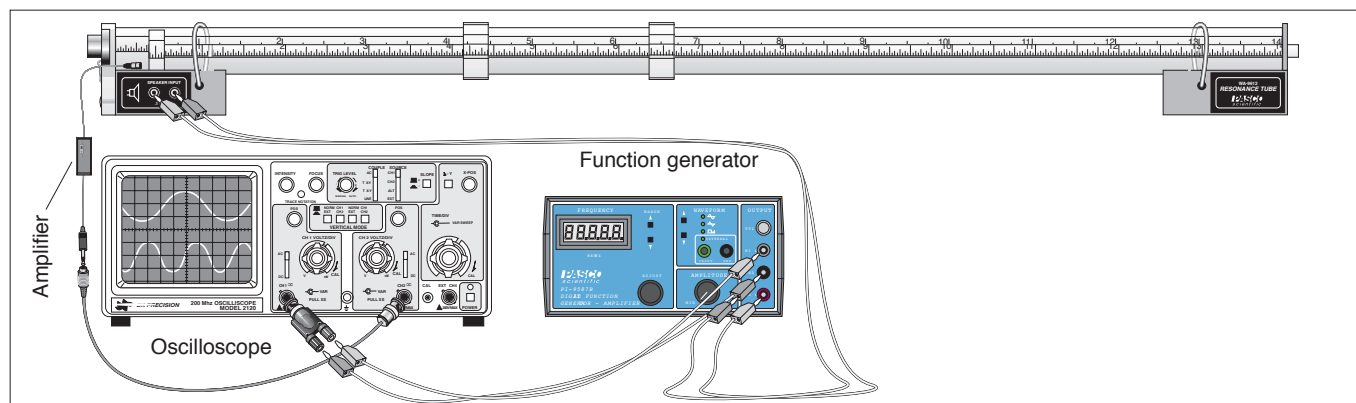

Figure 1.1 Equipment Setup
- ① Set up the Resonance Tube, oscilloscope, and function generator as shown in Figure 1.1. Turn on the oscilloscope. Set the oscilloscope sweep speed to approximately 5 ms/div and the gain on channel one to approximately 5 mV/div. Turn on the amplifier and the function generator. Set the output frequency of the function generator to approximately 100 Hz. Adjust the amplitude of the function generator until you can distinctly hear the sound from the speaker. If you use the oscilloscope, trigger on the speaker output.
- ② Increase the frequency slowly and listen carefully. In general, the sound will become louder as you increase the frequency because the function generator and speaker are more efficient at higher frequencies. However, listen for a relative maximum in the sound level—a frequency where there is a slight decrease in the sound level as you increase the frequency slightly. This relative maximum indicates a resonance mode in the tube. Adjust the frequency carefully to find the lowest frequency at which a relative maximum occurs. (You can also find the relative maximum by watching the trace on the oscilloscope. When the signal is a maximum height, you have reached a resonant frequency.) Record the value of this lowest resonant frequency as n_0 in Table 1.1